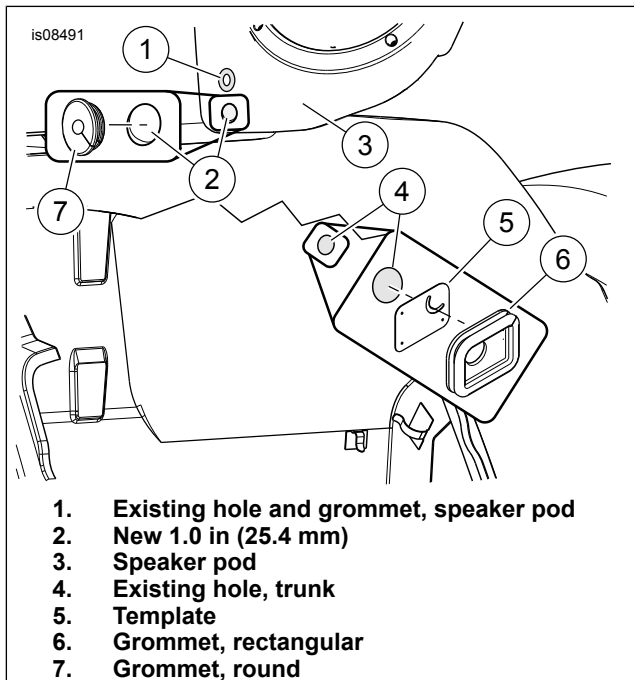

Figure 1. Grommet Installation
1. Cut hole for rectangular grommet (9). See Figure 1.
- a. Remove and discard grommet from existing hole (4). Align template (5) over existing hole so the upper right of the template edge aligns with hole. The existing hole becomes the upper edge of the new rectangular hole.
7. See Wire Harness . Route wire harness to speaker pods (12 and 13) and through grommets (7).
8. Route wire harness through grommet (9) and to amplifier. Attach harness to amplifier.
9. See Figure 1. Install round grommets. Install rectangular grommet.